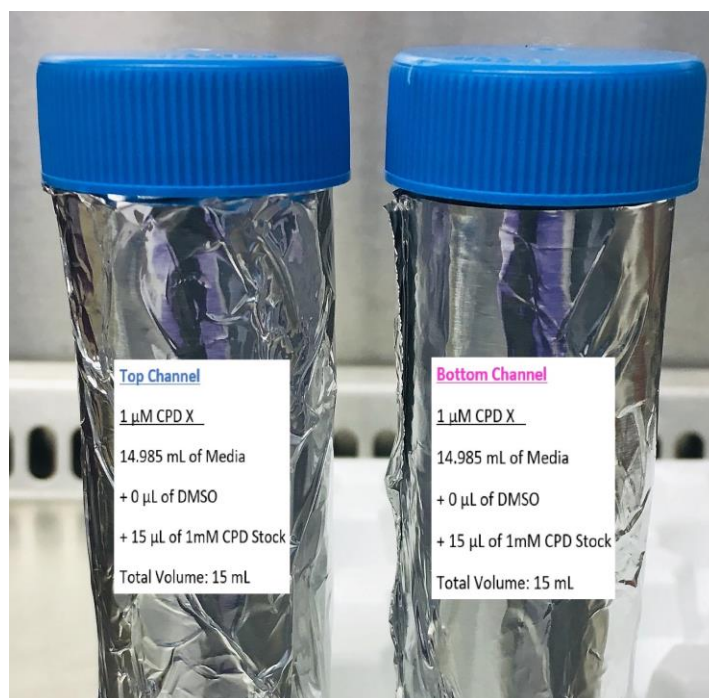

Figure 1: Best labeling practices
- While the medium is warming, gather 50 mL conical tubes for each dosing group and label them accordingly. (Please refer to Figure 1 below for best practices on labeling.)